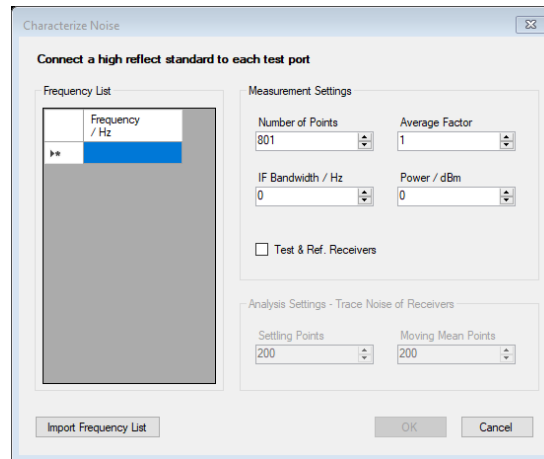

Figure 20: Database / VNA Device / Characterize Noise
The dialog called Characterize Noise, see figure 20, is designed to characterize and analyze the noise floor and trace noise of a VNA. This is done by connecting a high reflect to each test port and measuring the S-parameters or optional the test and reference receivers. For the noise characterization each frequency is measured in continuous wave (CW) mode to minimize drift effects. The following user controls are available: